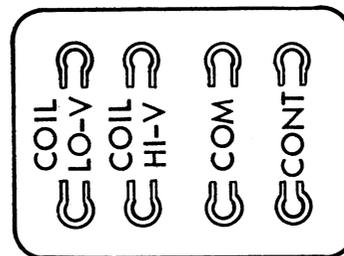

Figure 4-11. Input Terminals
Eight terminal jacks (Figure 4-11) appear on the top of the dynamic timer power pack. They are arranged in two rows of four jacks, and each row of four jacks is associated with one of the indicator circuits. The right center jack in each row is the common (C) hub and is always used in testing. The other jacks are used to complete the circuit to the neon light. The terminal labeled CONT is used for contact tests; COIL LO-V is used for low-voltage impulse tests; COIL HI-V is used for high-voltage impulse tests.